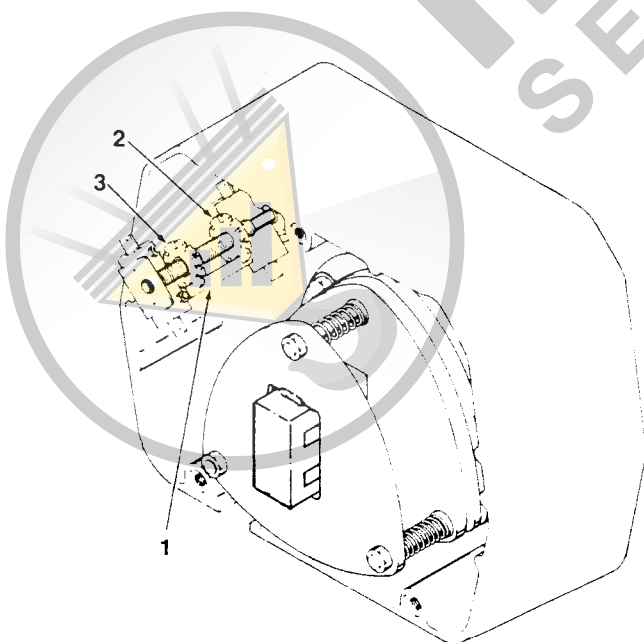

FIGURE 4-1. LIMIT SWITCH ADJUSTMENT
4-2. Limit switches are provided to protect the hoist against damage resulting from over-travel or to allow setting the hoist travel within a prescribed travel range. For easy identification and association with the proper travel the upper and lower limit switch adjusting nuts (2 and 3, Figure 4-1) are colored red and green respectively. The increment of adjustment is as follows: One complete revolution (ten slots) of either nut is equivalent to approximately $7\frac{3}{4}$ " of hook travel on the 1 & 2 Ton hoist or approximately $3\frac{7}{8}$ " of hook travel on the 3-Ton hoist. One slot is equivalent to approximately $\frac{3}{4}$ " of hook travel on the 1 & 2-Ton hoist or approximately $\frac{3}{8}$ " on the 3-Ton. Movement of the limit switch nuts toward or away from each other increases or decreases the hook travel respectively. Care should be exercised when adjusting either limit of travel.
- c. With a screwdriver, pry the spring guide plate (1, Figure 4-1) out of the slots in the colored limit switch nuts (2 and 3).
- d. Turn the slotted red nut (2) towards its limit switch until the limit switch "clicks";* then turn two SLOTS further. Release the spring guide plate and be sure it slips back into the slots in the colored limit switch nuts. Do not disturb the other slotted nut if it has been set previously.
- d. Turn the slotted green nut (3) towards its limit switch until the limit switch "clicks";* then turn two SLOTS further. Release the spring guide plate and be sure it slips back into the slots in the colored limit switch nuts. Do not disturb the other slotted nut if it has been set previously.
- With a screwdriver, push the spring guide plate (1, Figure 4-1) out of the slots in the plastic limit switch nuts. Turn the green slotted nut (3) back to about the center of the screw thread. **DO NOT DISCONNECT THE WIRES FROM THE LIMIT SWITCHES.**
4. With a screwdriver, push the spring guide plate (1, Figure 4-1) out of the slots in the plastic limit switch nuts. Turn the
d. With a screwdriver, push the spring guide plate (1, Figure 4-1) out of the slots in the plastic limit switch nuts. Turn the green slotted nut (3) back to about the center of the screw thread. **DO NOT DISCONNECT THE WIRES FROM THE LIMIT SWITCHES.**